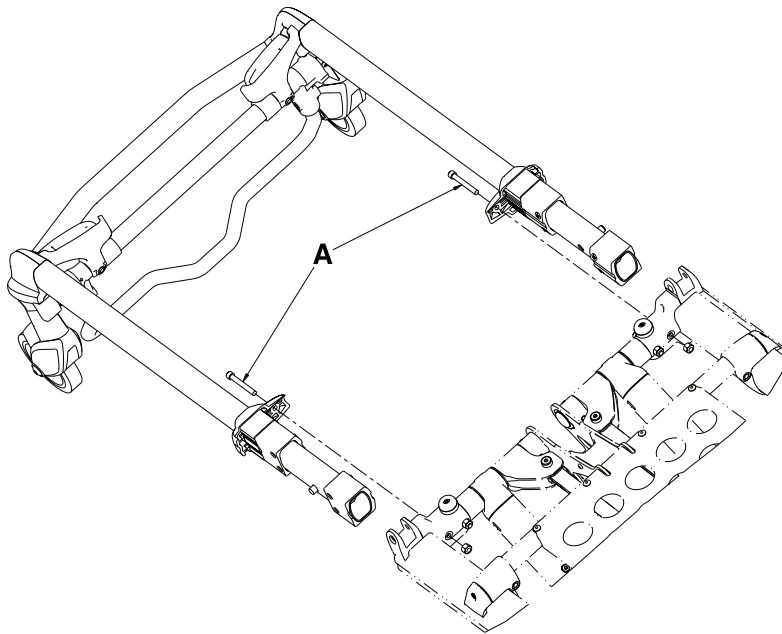

Figure 8: Head section
- Using a 7/16" combination wrench and a 3/16" hex wrench, remove the two screws (A) that secure the cap bearings to the base litter interface bracket (one on each side) (Figure 8 on page 43).